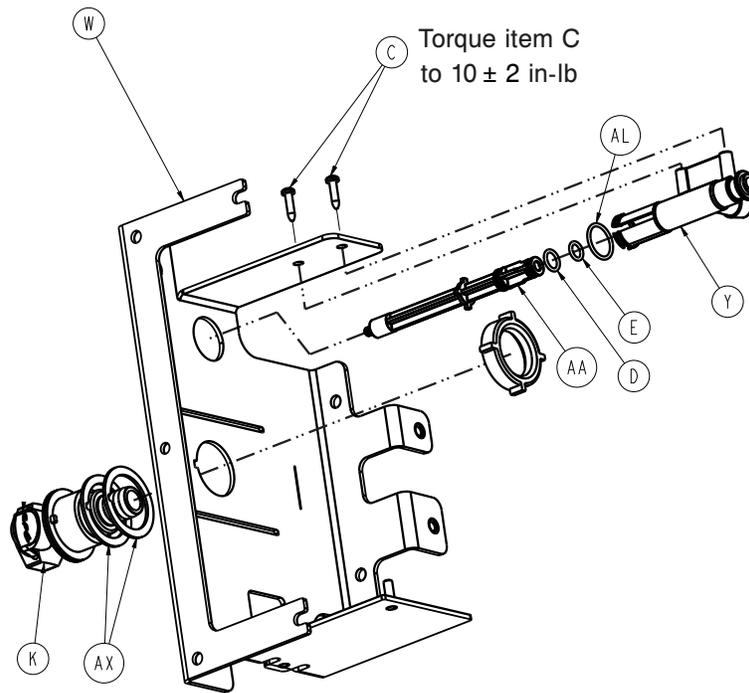

Figure 18 – Drain valve screws
- Pull up and rotate the fluid bracket to access the drain valve screws (C) (Figure 18).